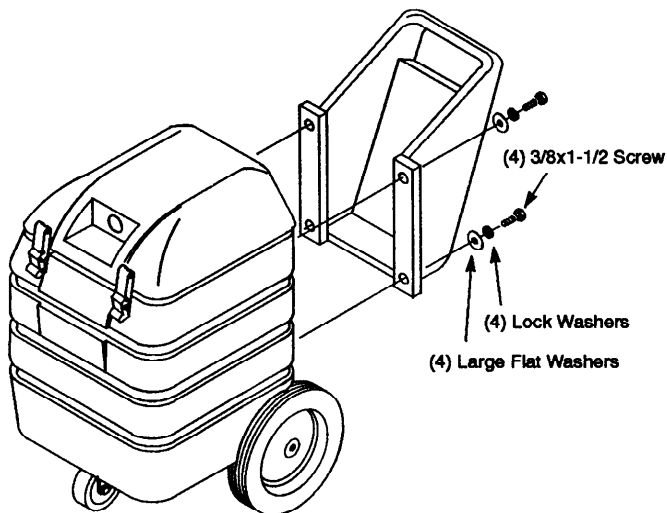

FIG. 1.
2. Align handle to mounting holes and fasten with (4) 3/8x1-1/2" hex head screws with flat and lock washers. Use a 9/16" wrench. (Figure 1)